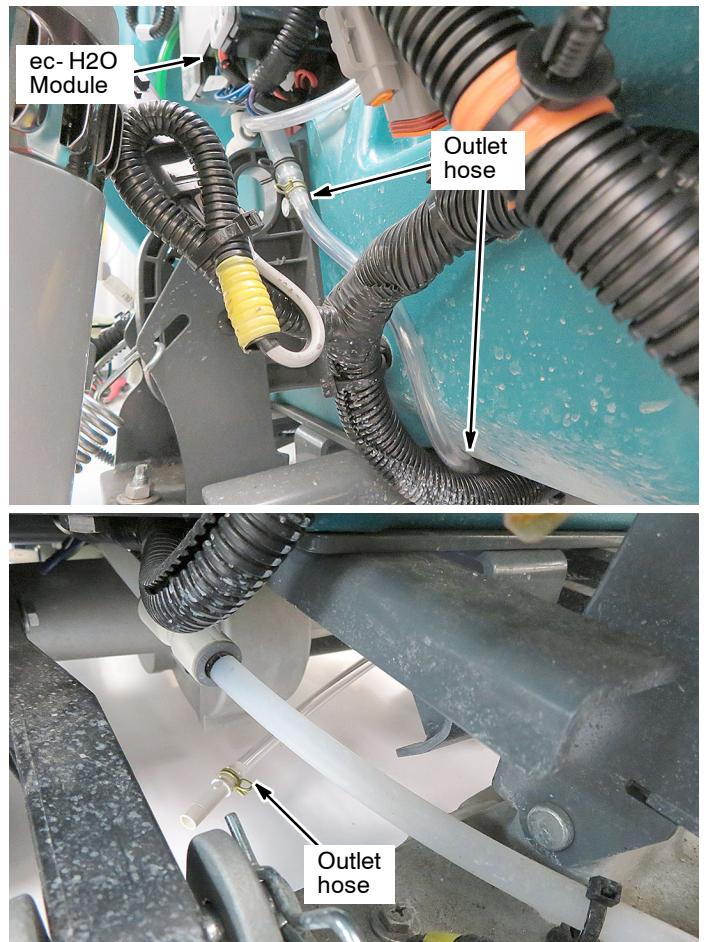

Fig. 12
11. Route the outlet hose from the ec- H2O module under the machine as shown (Figure 12).